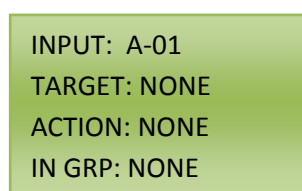

Figure 9.2
3. To set the Time-Keeper® to program Smart Switches, use the Right Arrow to place the cursor on the colon between the words INPUT and A-01. Press the Right Arrow once to move the cursor over to the word A-01. Use the Up or Down Arrow to change this to say INPUT: ST01-B1. Press the Left Arrow to return to the colon to move onto programming the TARGET. See figure 9.2 for visual description.